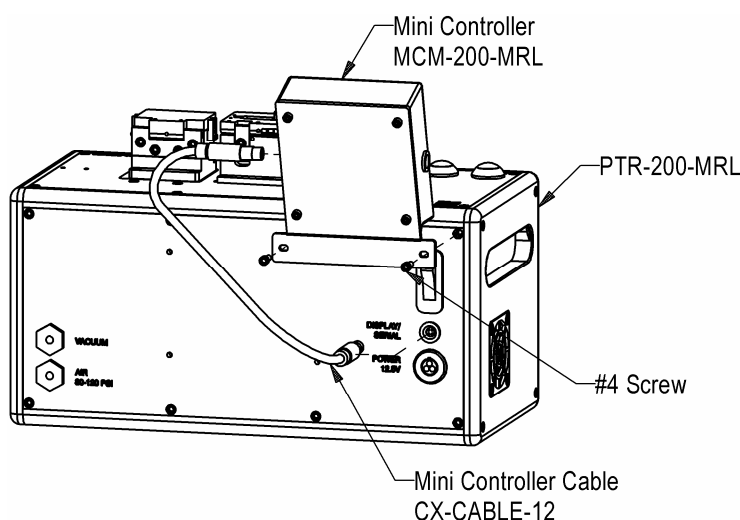

Figure 17: Attaching a Mini Controller
Make sure power to the MRL is turned off. Use the 3/32" Allen wrench from the tool kit to remove the two (2) socket head cap screws from the top right of the MRL backplate, as shown in Figure 17. Attach the two stand-off in place of the two screws removed from the unit. Line up the mounting holes on the MCM-200 with the stand-offs and attach using the two socket head cap screws removed from the unit. Connect the interface cable from the connector on the right-hand side (front view) of the Mini Controller to the connector on the back of the MRL labeled "DISPLAY/SERIAL".